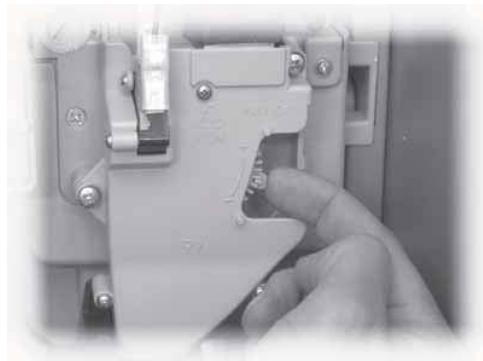

Fig. 50
- move the adjusting lever into the rack and select the slot corresponding to the dose required (Fig. 50).